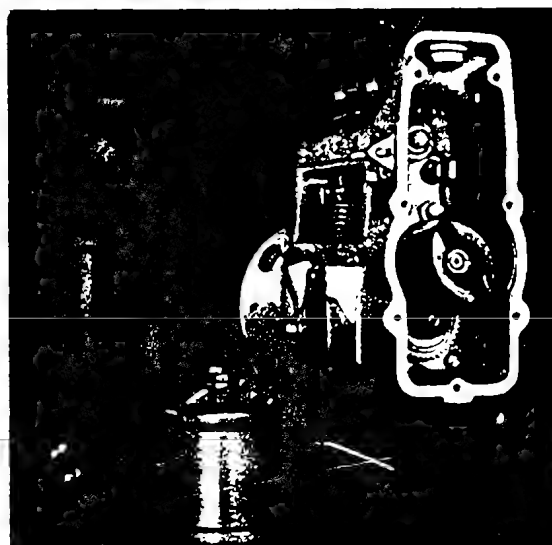
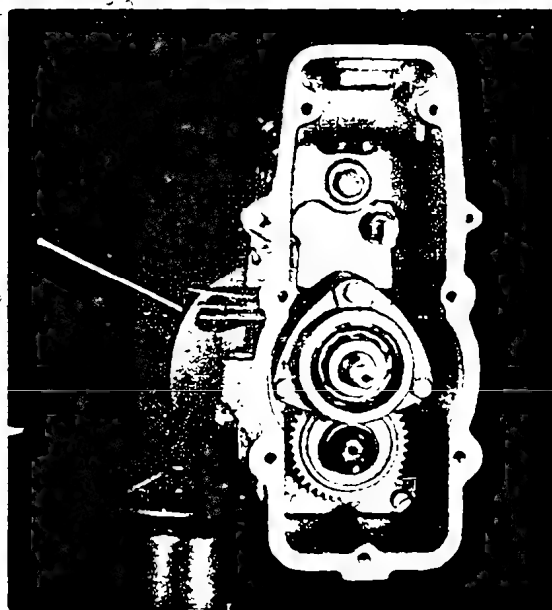

Fig. 21 EP/RSUV governor with cover removed
Fig. 22 Flyweight assembly removed
Having removed governor cover (30) (Fig. 21) and flyweight assembly (1) from governor shaft (170) (Fig. 22) proceed as follows:
2.3. 1. Unscrew the three fixing screws (169) on bearing cover (168) of governor shaft (170) removing the screws together with spring washers (169a) and any plain washers if fitted.